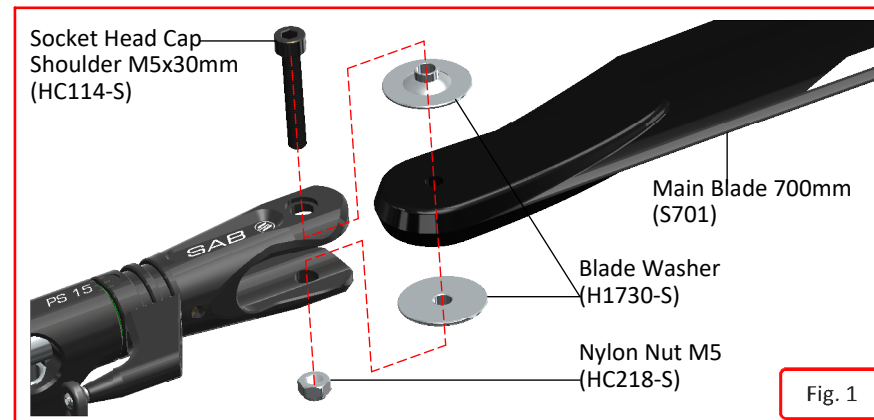
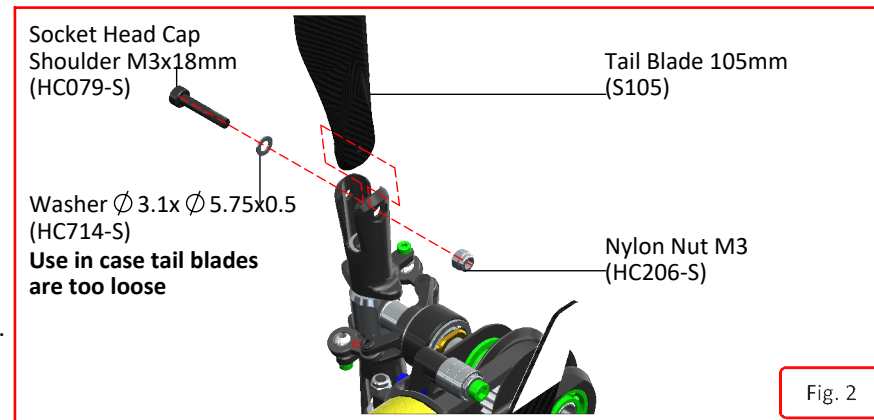

Fig. 1
Fig. 2
To fit the tail belt, loosen the tail boom by loosening the 2 M3 screws (**Fig.1**).
- *The indicator on the tensioner needs to reach "Zero" (**Fig.2**).
*Install Canopy grommets (Figure.1) and the two quick knobs (Figure.2).
- *Fit the main blades and tail blades. **(Figure.1 and Figure.2)**